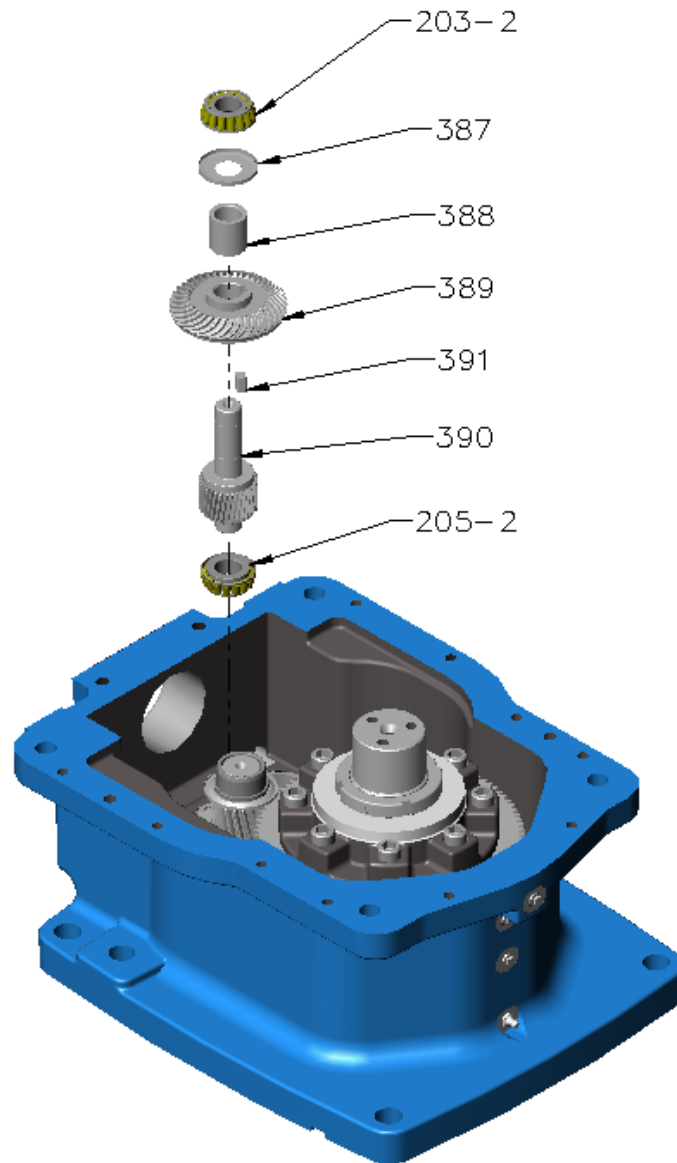

Figure 9 – First intermediate shaft
- K. Remove first intermediate shaft assembly (refer Figure 9)
- L. First intermediate shaft disassembly (refer Figure 9):